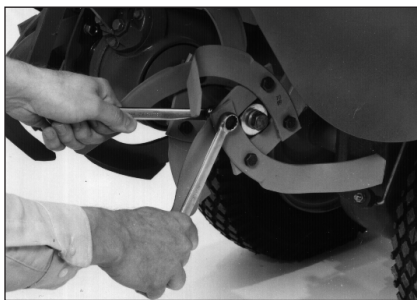

Figure 5-32: Removing a single tine requires taking off two bolts and two nuts.
5. Use two 9/16" wrenches to remove the two bolts and nuts securing the tine to the tine holder plate (Figure 5-32). Use penetrating oil on the hardware if it is rusted or hard to remove.